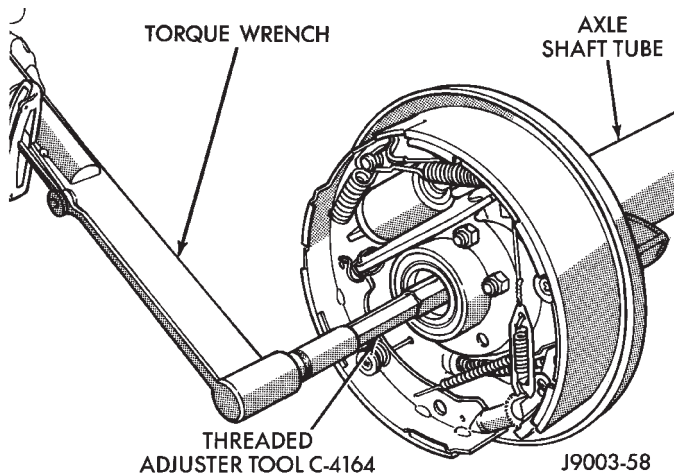

Fig. 12 Threaded Adjuster Tool
(6) Remove the bearing threaded adjuster lock from each bearing cap. Loosen the bolts, but do not remove the bearing caps.
(7) Loosen the threaded adjusters with Wrench C-4164 (Fig. 12).
(1) If the ring gear runout exceeded 0.13 mm (0.005 inch), case flange runout should be measured. Install the case with bearing cups and threaded adjusters close to their original position.
(2) Install the bearing caps and bolts. Tighten the bolts lightly. Use Wrench C-4164 (Fig. 12) to thread both adjusters inward. Remove all side play.